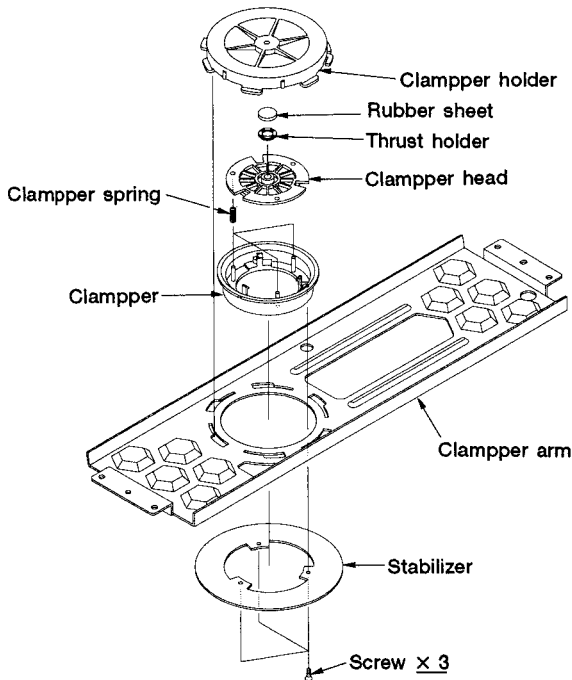

Fig. 2-6 Clammer unit
- ④ Clamper unit (Fig. 2-6)
**④ Clammer Unit (Refer to Fig. 2-6)**
While the servo-mechanism unit is ascending, the disc on the tray is lifted and the clamber waiting on top is pushed up. Clamping force is generated (Fig. 2-6) from the force of the clamp spring between the clamber and clamber head.